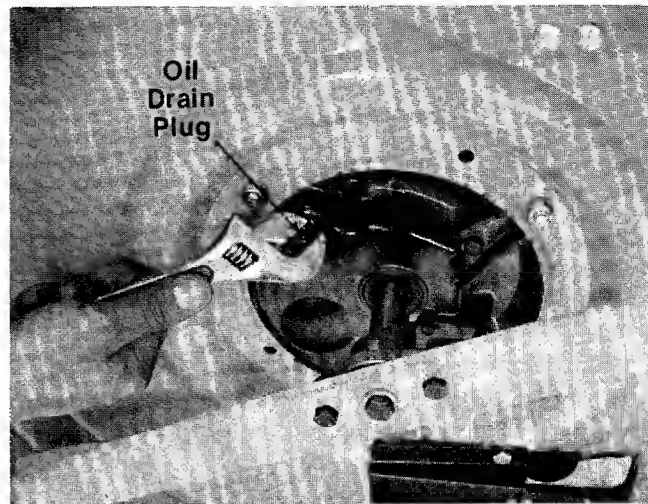

FIGURE 17.
**CHANGE OIL** after first 5 hours of operation. Thereafter change every 25 hours. Change oil while engine is warm. Oil may be drained thru drain on bottom of engine. To drain completely, always place engine level when draining thru the bottom. Oil capacity 1-1/4 pints. See figure 17.